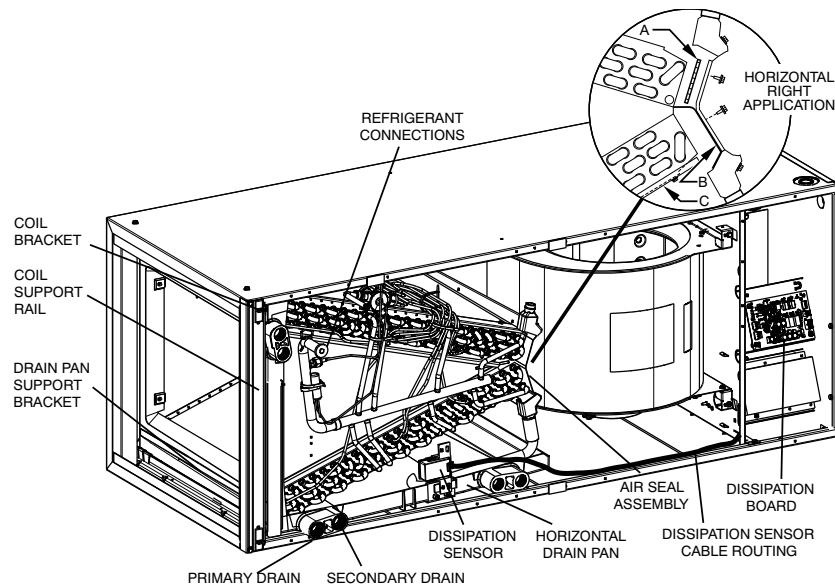
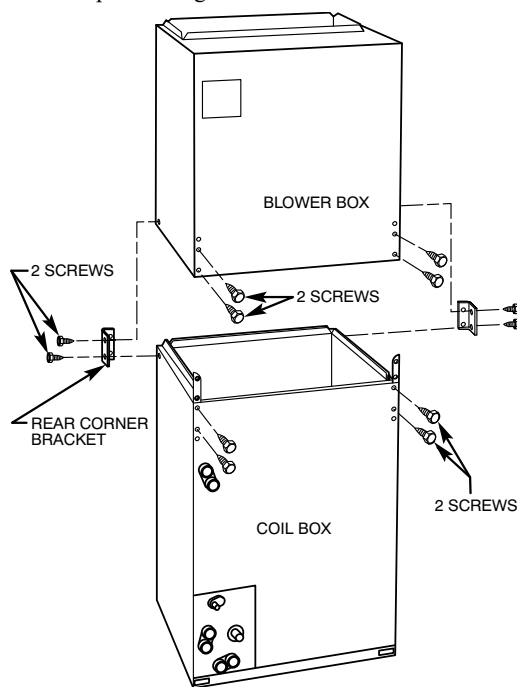

Fig. 5 – Conversion for Horizontal Right Applications - A-Coil Only
Fig. 6 – Removal of Brackets on Modular Unit
To disassemble unit, remove rear corner brackets by removing 2 screws which secure brackets. Remove either 2 screws in each front corner of coil box, or 2 screws in blower box (Fig. 6). Do not remove all 4 screws in each corner. Sections may now be separated by lifting top section from lower section.
1. Remove blower and coil access panels (Fig. 5).
- a. Remove air seal assembly from coil by removing 4 screws (Fig. 5).
- b. Remove air splitter (B) from coil seal assembly by removing 3 screws (Fig. 6 inset).
- c. Remove filler plate (A) and install air splitter (B) in place of filler plate.
- d. Install filler plate (A) as shown in horizontal right application.
- e. Remove condensate troughs (C) and install on opposite tube sheets.
12. Reconnect the sensor wire harness by following the routing shown in Fig. 5.